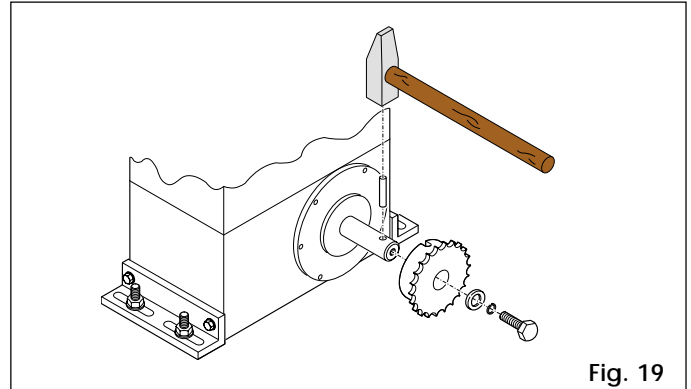

Fig. 19
- 2) Remove the cover of the relevant bore (Fig. 1- ref. 9), and unscrew the cap of the clutch adjusting screw (Fig. 19).